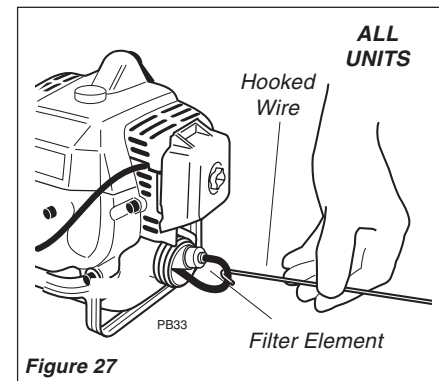

Figure 27
- Use a hooked wire to extract the fuel filter from inside the fuel tank. Remove and replace the filter element. Before reinstalling the filter, inspect the condition of the fuel line. If damage or deterioration are noted, the unit should be removed from service until it can be inspected by a Shindaiwa-trained service technician. See Figure 27.